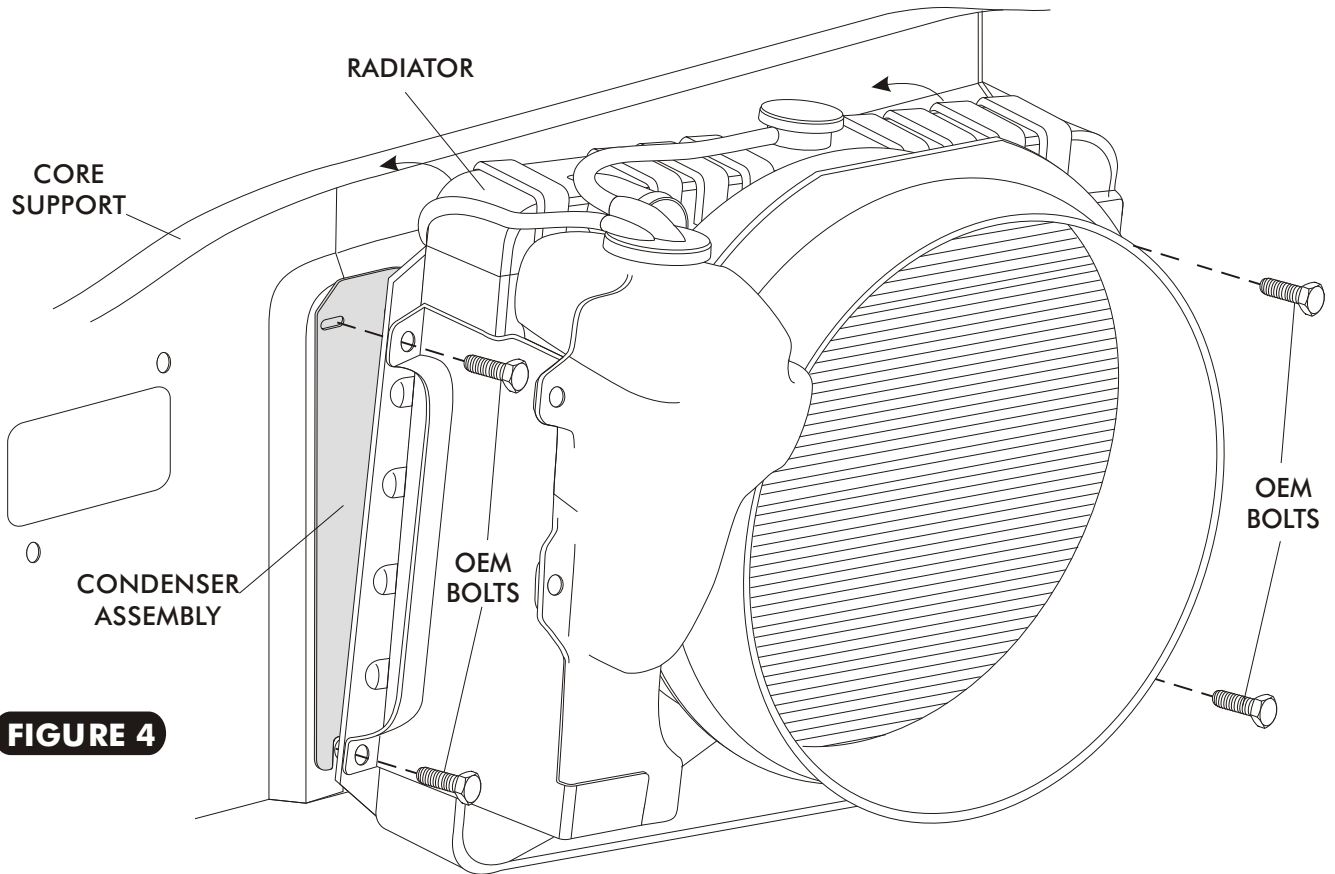

FIGURE 4
- USING THE OEM HARDWARE SECURE THE CONDENSER ASSEMBLY BETWEEN THE RADIATOR AND THE CORE SUPPORT SEE FIGURE 4 BELOW.